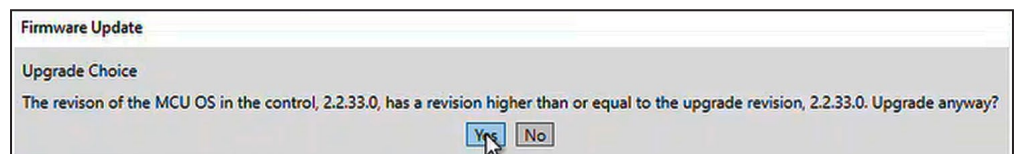

Figure 20. The MCU OS revision dialog box.
STEP 9. The Firmware Update dialog box may ask about the MCU OS revision. Click on the **Yes** button if this dialog box appears. See Figure 20.